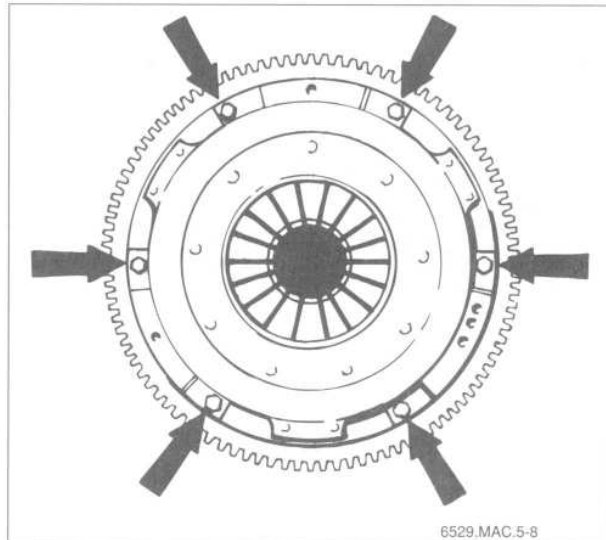

Fig. 5. Pressure plate mounting bolts (arrows).
The transmission must be removed from the engine to access the clutch mechanical components. See **230 Manual Transmission**. Fig. 5 shows the clutch components that are normally replaced as part of a clutch overhaul job.
2. Lock engine flywheel in position and unbolt pressure plate. Loosen bolts in stages until spring pressure is evenly relieved. See Fig. 5.